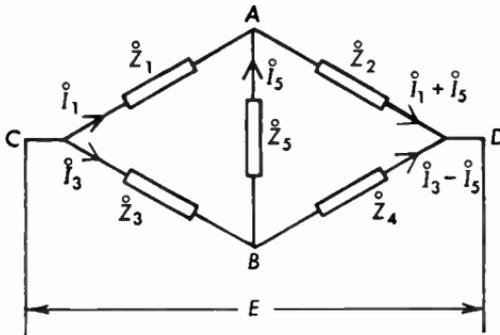

Fig. 3.37 Unbalanced impedance bridge.
3.37 In the circuit of Figure 3.37
Let the current through  $\dot{Z}_1$  be  $\dot{I}_1$ , the current through  $\dot{Z}_3$  be  $\dot{I}_3$ , and the current through  $\dot{Z}_5$  be  $\dot{I}_5$ ; the direction of  $\dot{I}_5$  is assumed arbitrarily, a convenient procedure which is discussed in problem 2.22. In the circuit of Figure 3.37 the arrow is pointing upward, therefore a current of  $\dot{I}_1 + \dot{I}_5$  will flow through  $\dot{Z}_2$ , and a current of  $\dot{I}_3 - \dot{I}_5$  will flow through  $\dot{Z}_4$ .